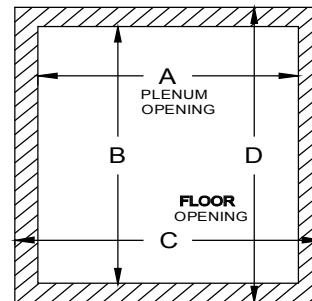

Fig. 6 - Floor and Plenum Opening Dimensions
2. Construct hole in floor per Table 2 and Fig. 6.
3. Construct plenum to dimensions specified in Table 2 and Fig. 6.